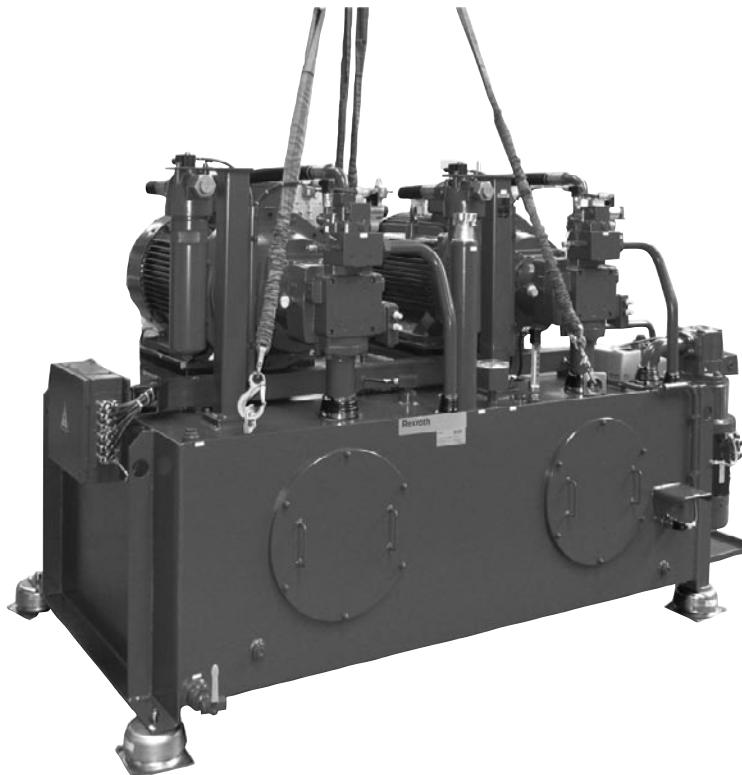

Fig. 5: Use of lifting straps and attachment points
- ▶ Use only the intended locations and attachment points when lifting (see Fig. 5 and 6).